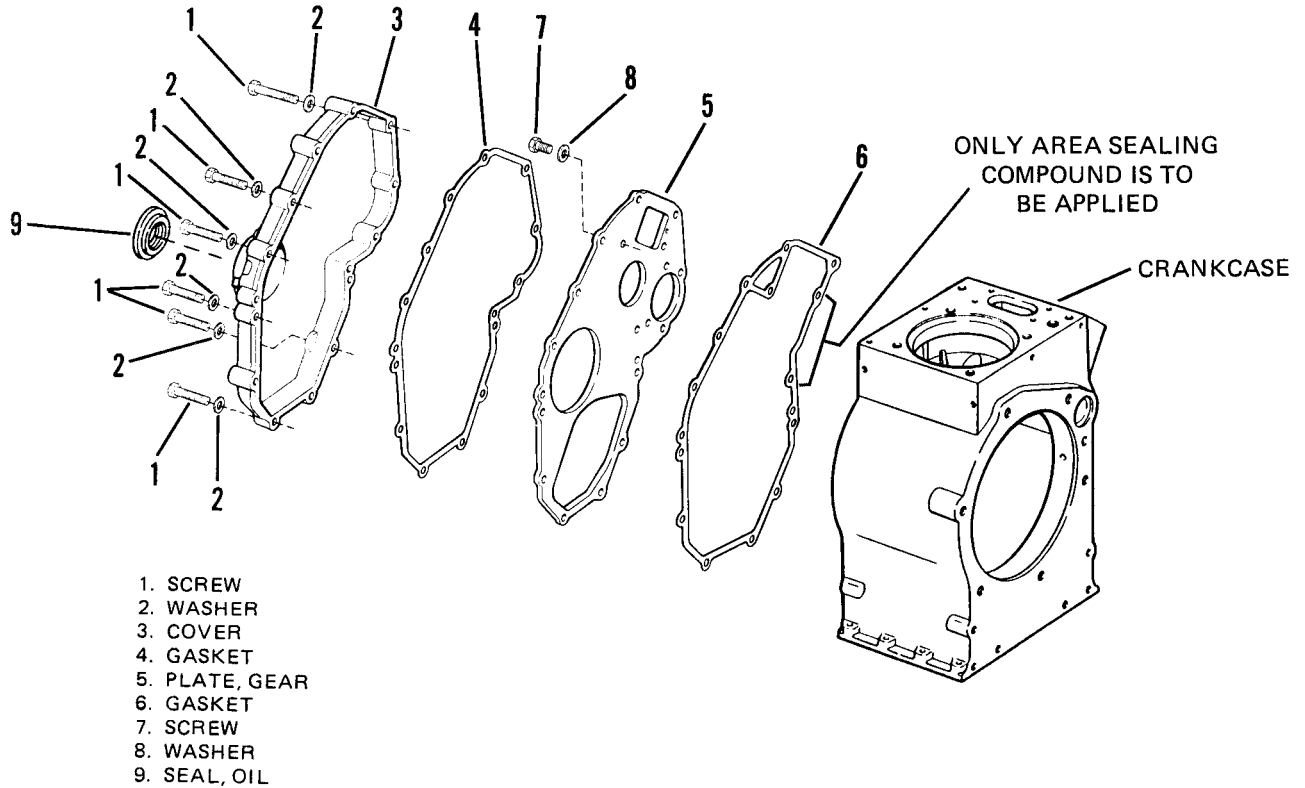

Figure 7-26. Gear Cover and Seal.
- (1) Remove governor, refer to TM 05926B/06509B-12/TM 5-6115-615-12/NAVFAC P-8-646-12/TO 35C2-3-386-31 manual, paragraph 4-44.
- (2) Remove lifting eyes and wrappers, refer to paragraph 7-6 a, Removal.
- (3) Remove air scroll, sound shield, and flywheel, refer to paragraph 7-10.
- (4) Remove stator and air scroll back plate, refer to paragraph 7-11.
- (5) Remove screws (1, Figure 7-26), washers (2), cover (3) and gasket (4).
- (6) Removal of gear cover back plate (5) and gasket (6) requires removal of camshaft (refer to paragraph 7-16), and the oil pump (refer to paragraph 7-14).
- (7) Remove screw (7), washer (8), cover back plate (5) and gasket (6).
b. Disassembly. Front oil seal (9) is not removed unless there is evidence of the leakage of oil.
- (1) If removed, oil seal (9) can be pressed into cover (3) with a press and installation tool (refer to Table 2-1).
- (2) Seal (9) should be pressed in 0.12 to 0.17 in. (3 to 3.8 mm) from the cover face. Be sure that oil seal lip does not run in previous oil seal lip groove.
Apply a bead of sealing compound (Table 2-2, item 10) in area shown in Figure 7-26 to both sides of gasket (6) before installation.
- (1) Install cover back plate (5) with gasket (6) and secure with screw (7) and washer (8).
- (2) Install camshaft, refer to paragraph 7-16.
- (4) Install oil pump, refer to paragraph 7-14.